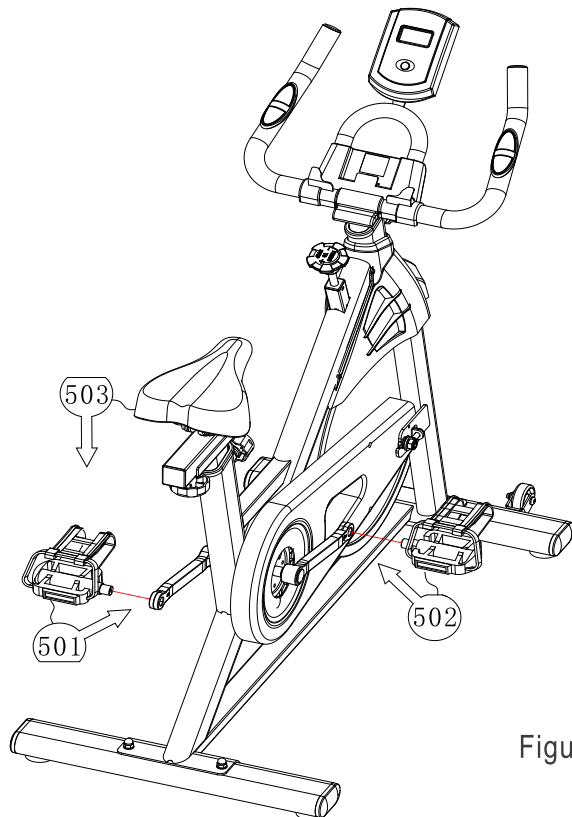

Figure 5
5. As shown in step 501 of Figure 5, screw the left-hand screw of the "left pedal" into the "left crank" screw hole of the "main frame" in a counterclockwise direction, and clamp the "left pedal" screw with a 19# wrench. Slightly rearward to lock it to the "left pedal".
6. As shown in step 502 in Figure 5, screw the right-handed screw of the "right pedal" into the "right crank" screw hole of the "main frame", and use the 19# wrench to clamp the "right pedal" screw to the rear position. Lock it to the "right pedal".
7. As shown in step 503 of Figure 5, attach the seat cushion to the seat cushion adjustment tube as shown in the figure, and tighten the screws under the seat cushion with an allen wrench.